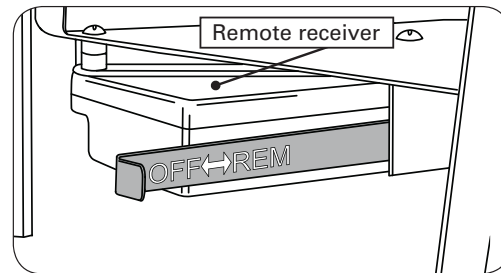

FIGURE 54
1. Locate the OFF/REMOTE slide actuator on the left rear of the burner. Slide the actuator to the left / OFF position. **(Figure 54)**
Seven flame height levels are available. Press the HI or LOW buttons to enter the Flame Height mode. Pressing the HI or LOW button once will increase or decrease the flame height by 1 of 7 increments. (**Figure 54**)